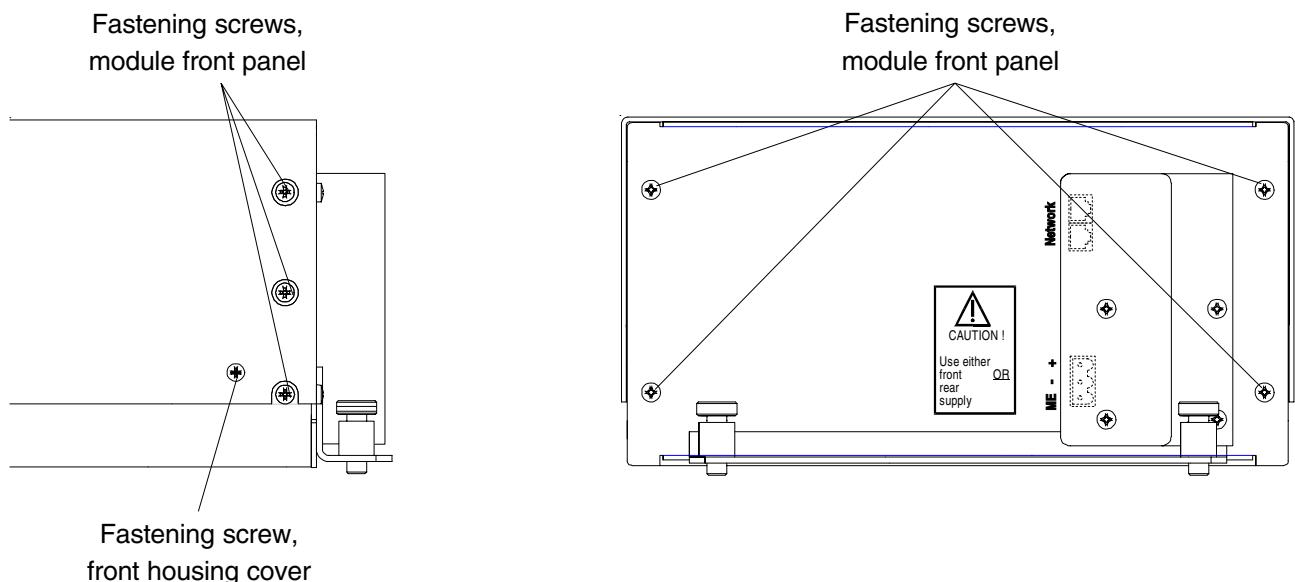

Fig. 15-2: MLT 1 (Platform housing)
- Unscrew the 6 fastening screws at both housing sides (Fig. 15-2)
- unscrew the 4 fastening screws at front panel (Fig. 15-2).